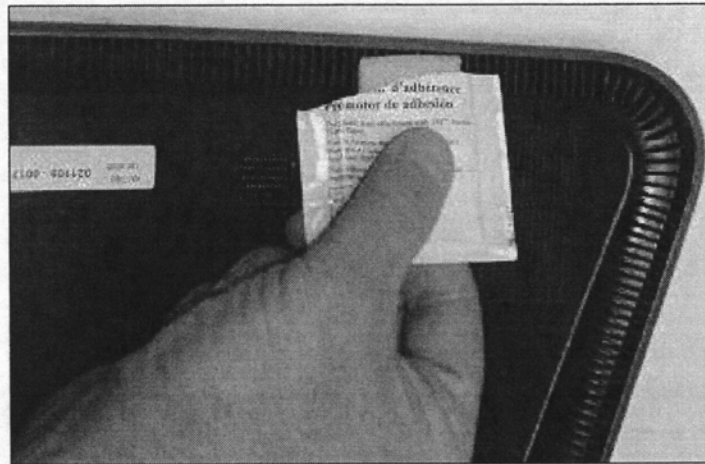

Figure 2
10. Roush recommends the use of 3M Adhesion Promoter 4298 to the ridged edge where the two-sided tape will be placed. Refer to Figure 2. Allow the Adhesion Promoter to completely dry.